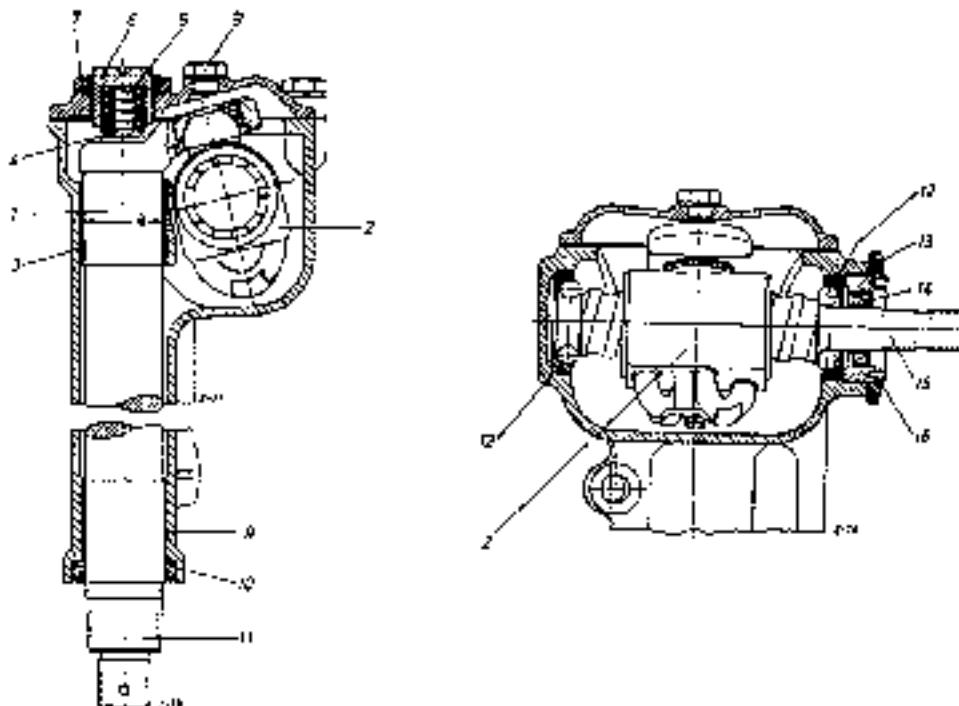

Fig. 46-0/1
5. The set screw for the steering shaft has an M 24X1.5 thread (Fig. 46-0/1 and Table).